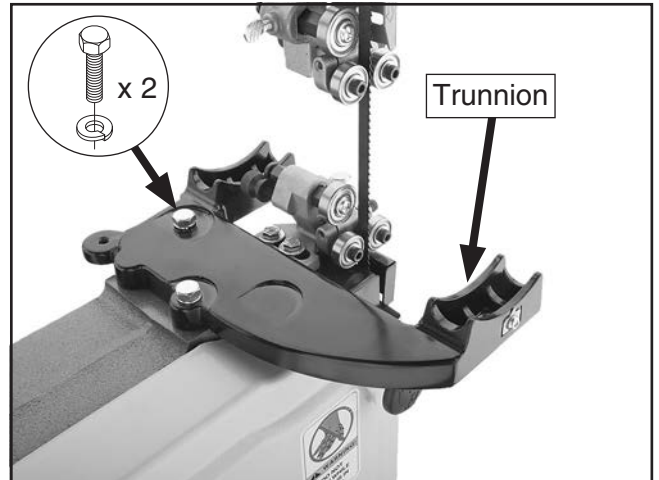

Figure 14. Trunnion installed.
- Position the table trunnion on the bandsaw, as shown in **Figure 14**, then secure it with the (2) M8-1.25 x 30 hex bolts and (2) 8mm lock washers.